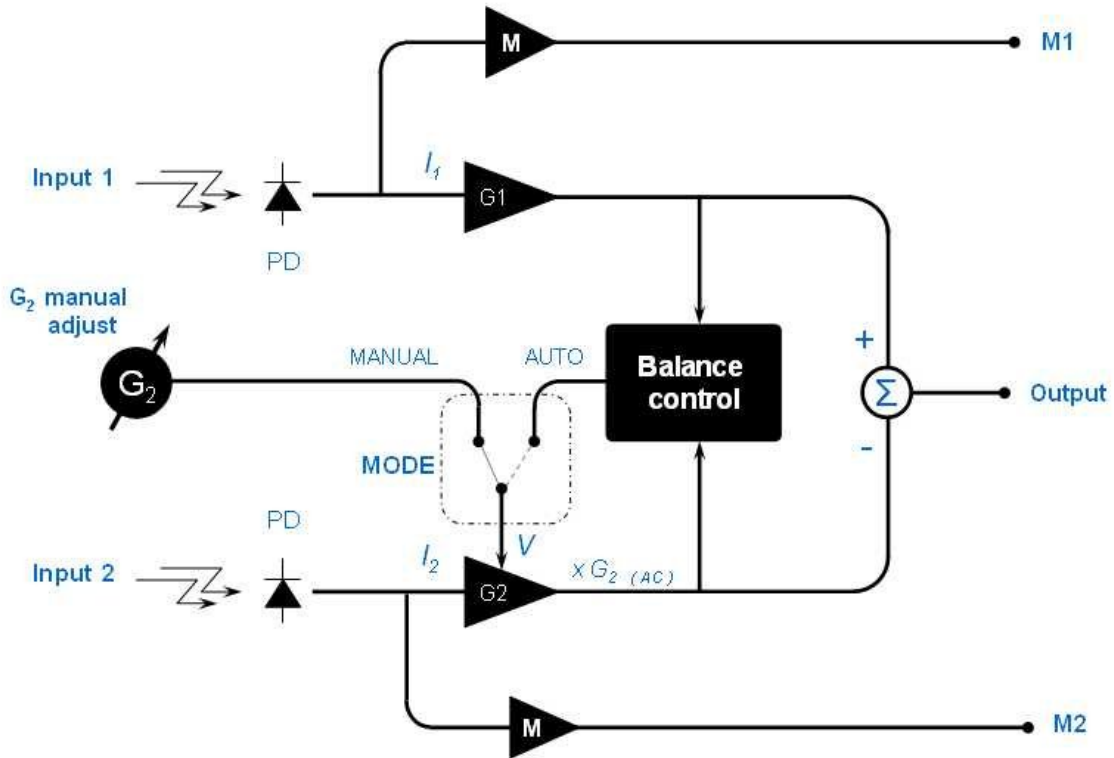
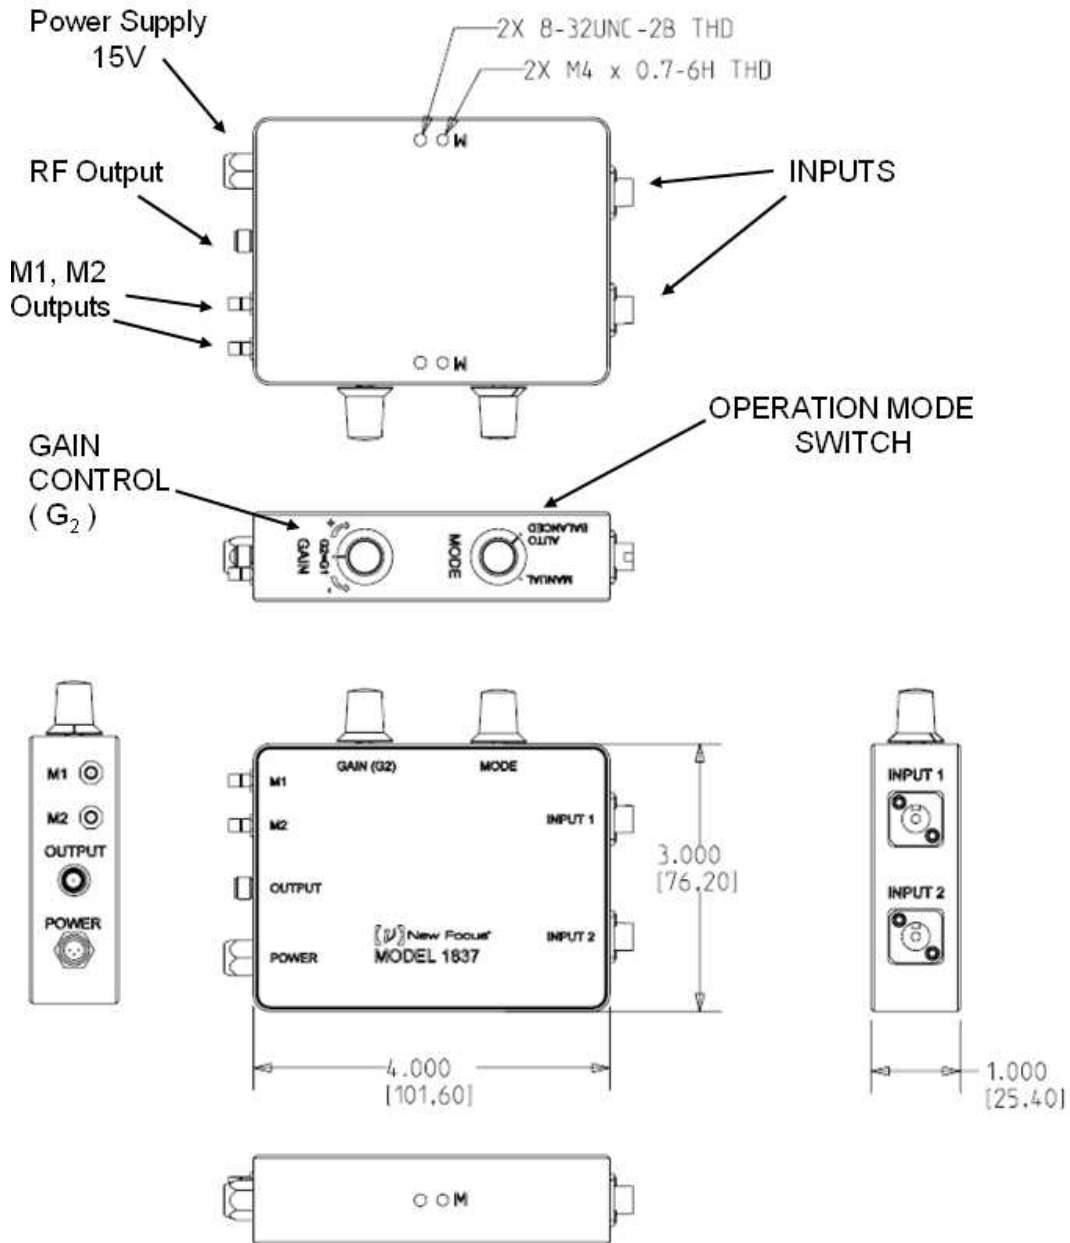

Figure 1: Functional block diagram of the Model 1837. The entire package is shielded to eliminate noise pickup.
Figure 2: Mechanical drawing of the balanced photoreceiver
- 2.** Mount the photoreceiver to your optical table. A pair of 8-32 and a pair of M4-threaded holes are located on the bottom of the unit. (Figure 2)
- 3.** Connect the optical source to one or both optical inputs. (Figure 2) Use single mode fiber with FC/APC angle polished connector.
A functional block diagram of the auto-balanced photoreceiver is shown in Figure 1, and a mechanical drawing is given in Figure 2.
The RF amplifiers in Figure 1 present typical AC coupled gains of G_1 and G_2 and amplify photodiodes currents I_1 and I_2 . G_1 is fixed to typically 40 000 Volts/Amp AC and G_2 can be automatically or manually set to values larger or smaller than G_1 . The amplifier is AC coupled with a 100-kHz low-frequency roll-off.
When in auto-balanced Mode (switch to AUTOBAL) 1837 Photoreceiver has a patent pending control logic (Fig 1) that detects signals on Input 1 and Input 2 in the range 30KHz to 1MHz (common mode). By computing the ratio between them it automatically generates a voltage V to control G_2 and equalize $G_2 \cdot I_2$ to $G_1 \cdot I_1$ in that frequency range and suppress it at the output V_0 .